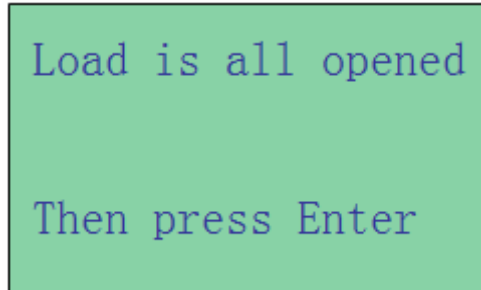

Figure 24
5. To proceed to the next stage, press  key will enter to the display as follows. (Fig.24)